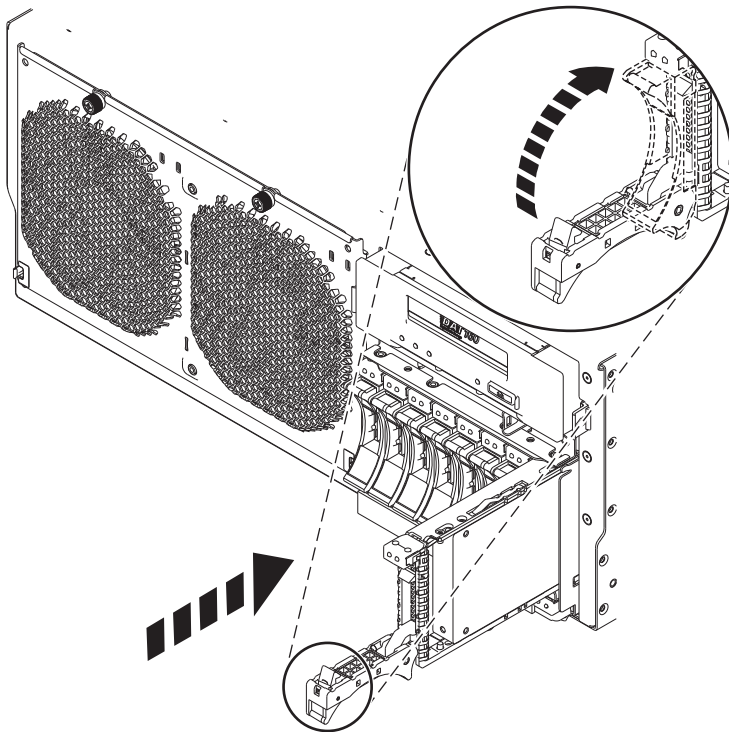

Figure 32. Installing a disk drive in the 8202-E4B, 8202-E4C, 8205-E6B, or 8205-E6C
12. When the service indicator starts flashing, slide the disk drive all the way into the system or expansion unit, and push the disk drive handle (A) in until it locks, as shown in Figure 32.